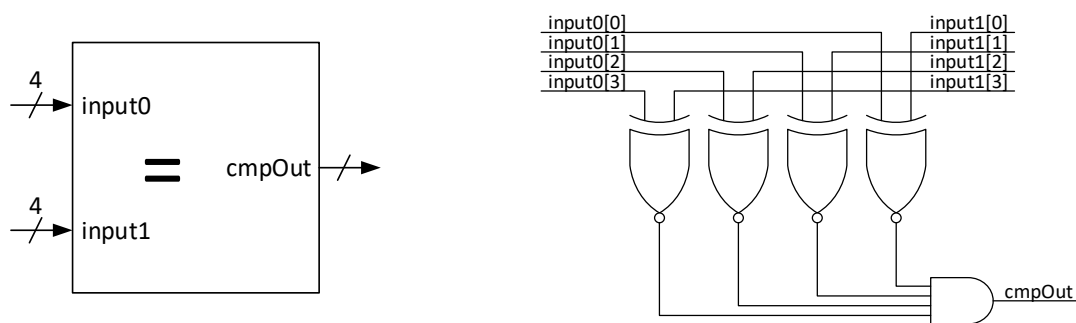
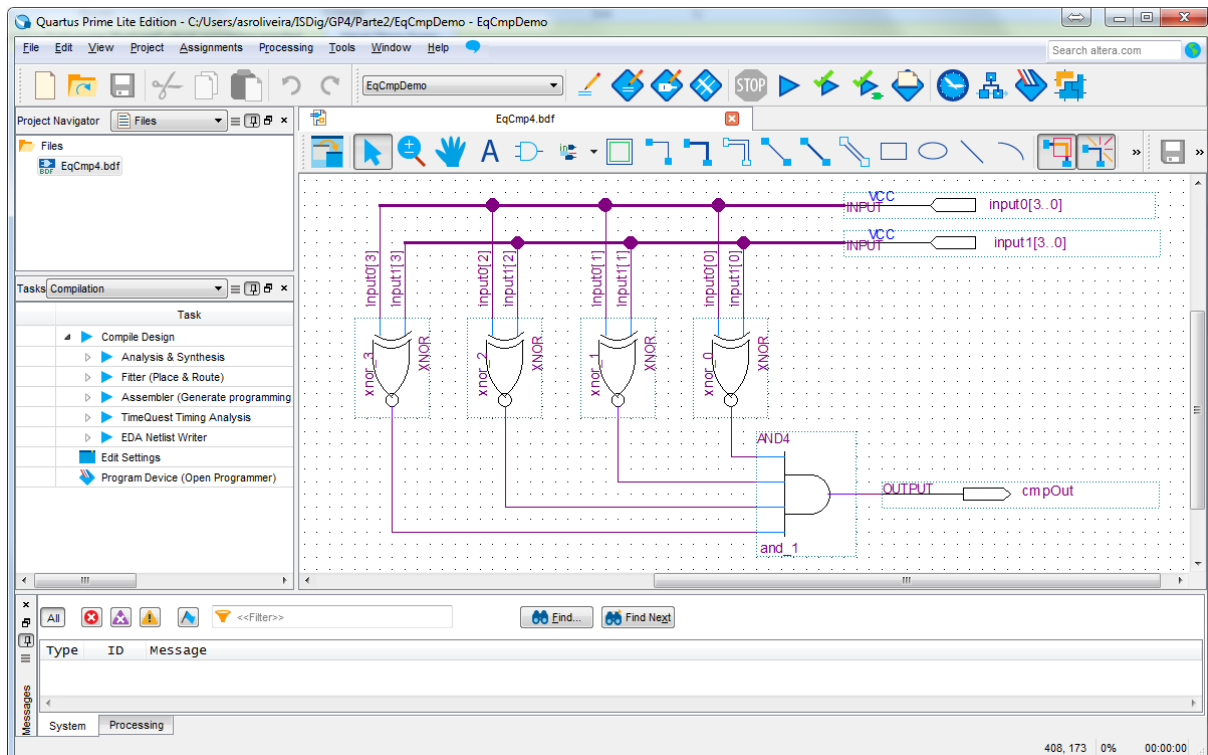

Figure 23 - Logical diagram of the 4-bit word equality comparator.
Figure 24 - Logical diagram of the 4-bit word equality comparator with interconnection and identification of the various circuit elements.
2. Create a new file for a schematic diagram called “EqCmp4.bdf” to implement a 4-bit word equality comparator (Figure 23). At the end of editing the logic scheme, the circuit should look similar to Figure 24. Use the “xnor” and “and4” components of the Quartus Prime library accessible through the Symbol Tool.